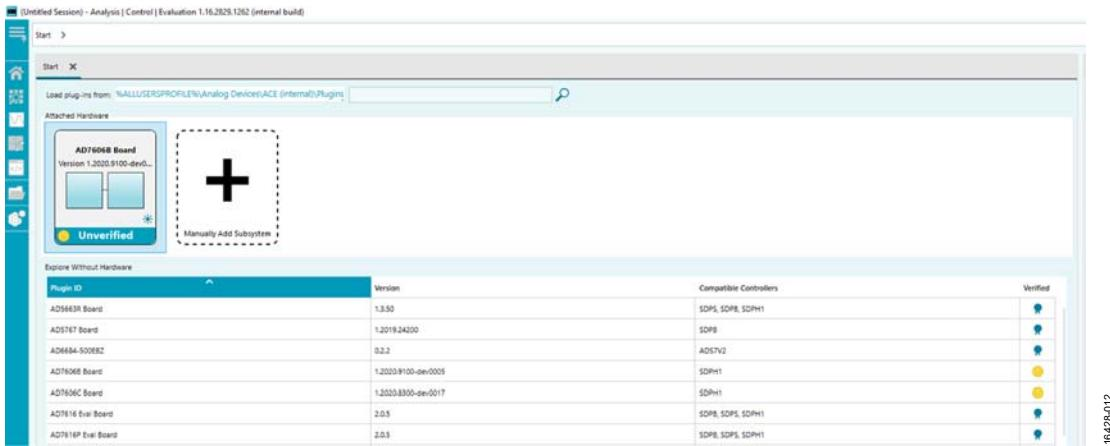

Figure 10. ACE Software Main Window
1. From the Start menu, select All Programs > Analog Devices > ACE> ACE.exe, which brings up the window shown in Figure 10.
3. Double-click the **AD7606B Eval Board** icon to view the window shown in Figure 10.